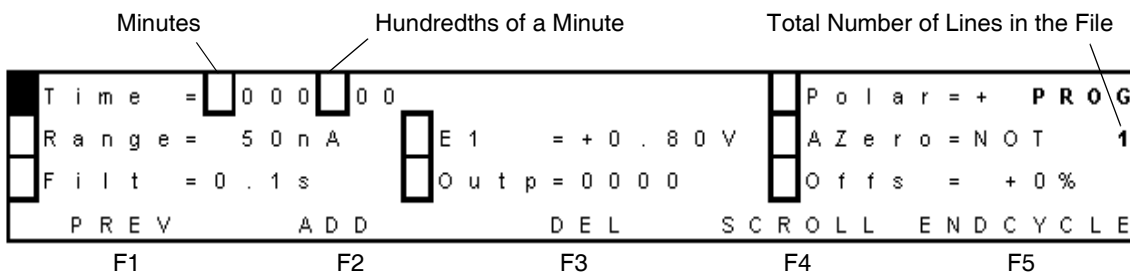

Figure 3-49 Prog Screen with Initial Conditions
d. Select **F5 NEXT**. The Prog screen appears (Figure 3-49). The number under PROG shows that this time file currently has one line. Time = 000.00 indicates the initial conditions.